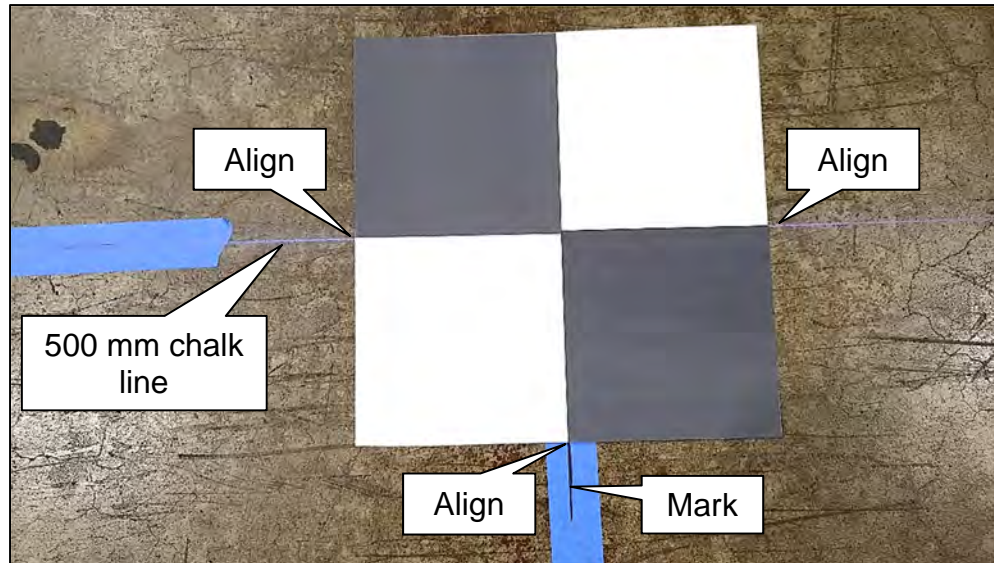
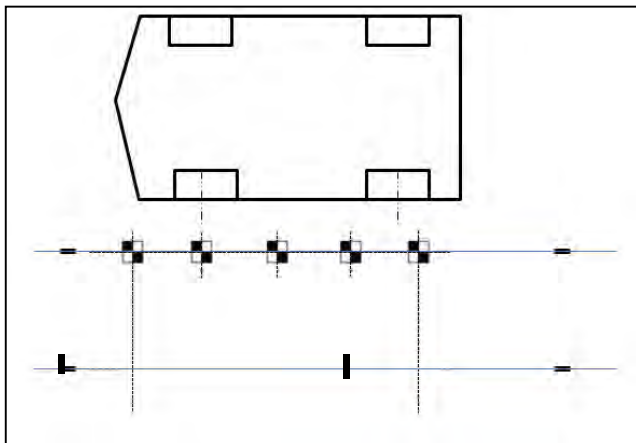
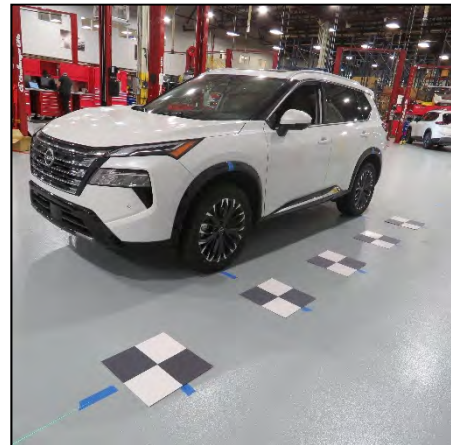

Figure 41
Figure 42
Figure 43
31. Place five (5) targets on the marks along the 500 mm chalk line.
**IMPORTANT:** Orient and align the targets, as shown in Figure 41, Figure 42 and Figure 43. The targets must be aligned with the 500 mm chalk line and the marks made in step 30 on page 22.